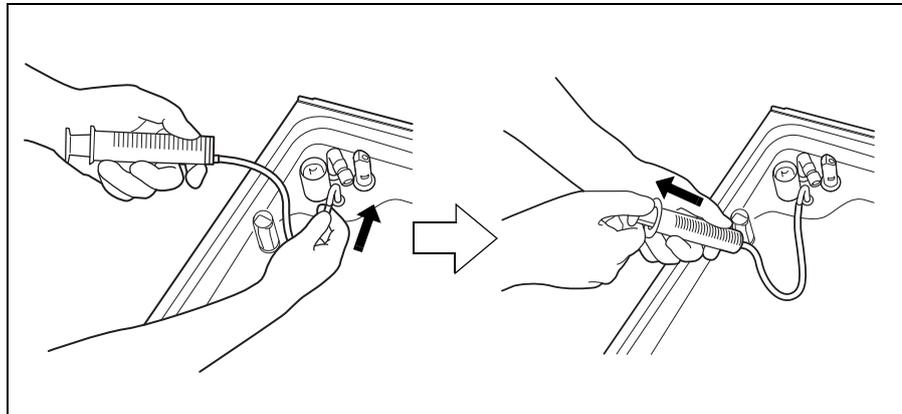

Figure 7.100
7. To remove detergent from inside the line, connect the tube attached to the syringe to the detergent nozzle inside the reprocessing basin. Suction the detergent with the syringe until no more detergent comes out of the line (see Figure 7.100).
10. To rinse the line, connect the tube attached to the syringe to the detergent nozzle and suction more than 50 ml of sterile water with the syringe (see Figure 7.100).
11. To remove rinse water from inside the line, connect the tube attached to the syringe to the detergent nozzle inside the reprocessing basin. Suction the water with the syringe until no more water comes out of the line (see Figure 7.100).
14. To rinse the line, connect the tube attached to the syringe to the detergent nozzle and suction more than 50 ml of 70% ethyl alcohol or isopropyl alcohol with the syringe (see Figure 7.100).
15. To remove 70% ethyl alcohol or isopropyl alcohol from inside the line, connect the tube attached to the syringe to the detergent nozzle inside the reprocessing basin. Suction the alcohol with the syringe until no more alcohol comes out of the line (see Figure 7.100).